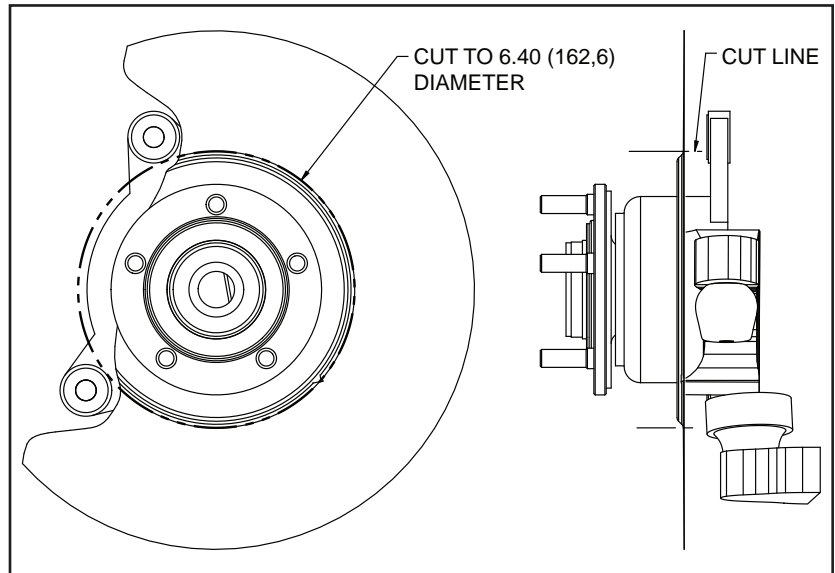

Figure 3. Dust Shield Modifications
- The dust shield needs to be modified as shown in Figure 3 to clear the new Wilwood rotor. **NOTE:** It is recommended that the dust shield be removed before modification, and the modifications be performed by a qualified machine shop.